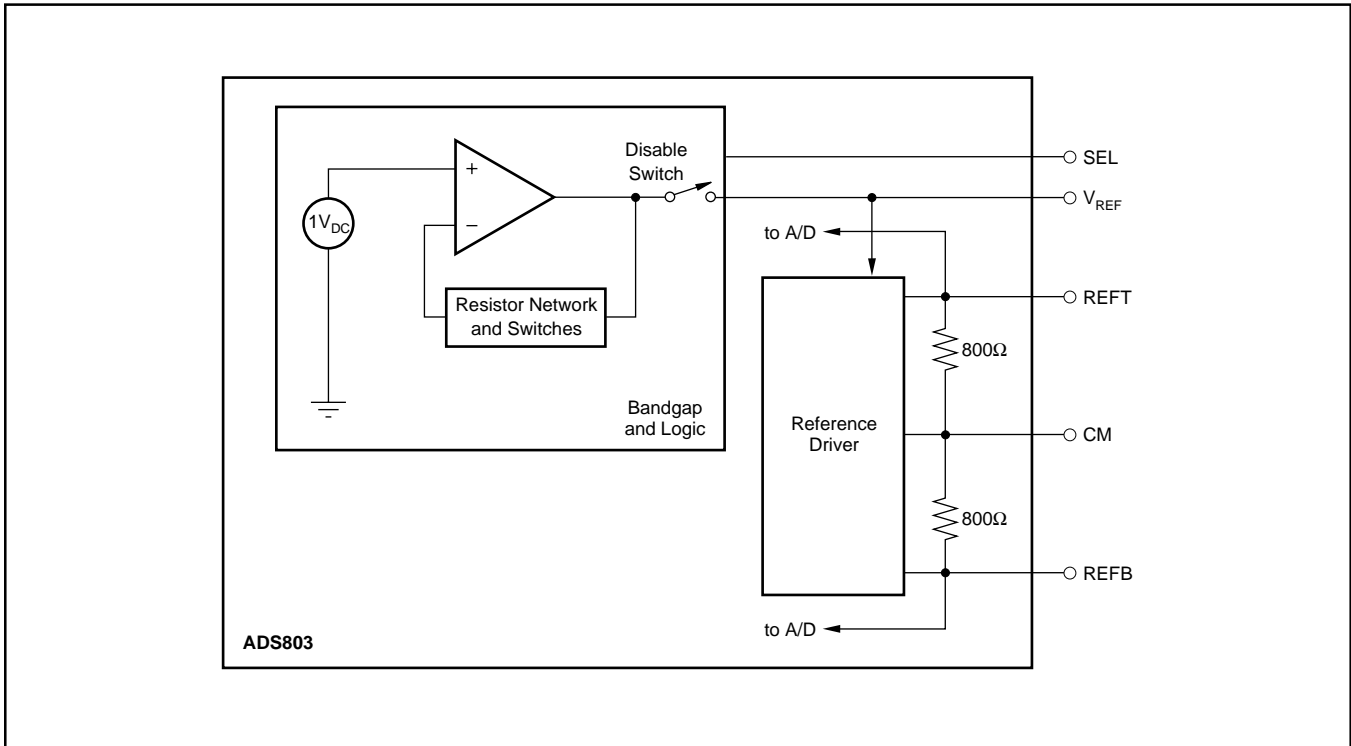

FIGURE 4. Equivalent Reference Circuit.
A simple model of the internal reference circuit is shown in Figure 4. The internal blocks are a 1V-bandgap voltage reference, buffer, the resistive reference ladder and the drivers for the top and bottom reference which supply the necessary current to the internal nodes. As shown, the output of the buffer appears at the  $V_{REF}$  pin. The full-scale input span of the ADS803 is determined by the voltage at  $V_{REF}$ , according to the equation (1):